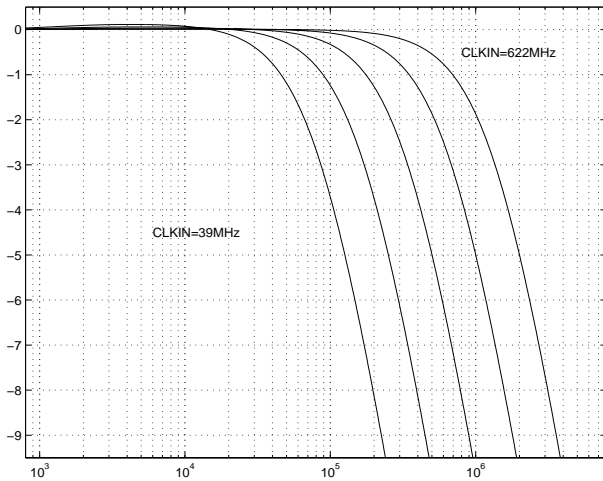

Figure 4. PLL Jitter Transfer Functions, MULTSEL = 0 (MULTOUT = 600–668 MHz)
The amount of jitter present in the MULTOUT output is a function of the DSPLL jitter transfer function and jitter generation characteristic. Details are provided in the PLL Performance section of this document. (See Figures 4 and 5.) The amount of jitter that the DSPLL can tolerate on the CLKIN input is specified in Tables 5 and 6.
MULTSEL setting and the input clock rate. Higher input clock rates produce higher bandwidth transfer functions with lower jitter peaking. Table 4 gives the 3 dB bandwidth and peaking values for specified input clock rates and MULTSEL settings. Figures 4 and 5 show a family of jitter transfer curves for different input clock rates.
- Figure 4, "PLL Jitter Transfer Functions, MULTSEL = 0 (MULTOUT = 600–668 MHz)," on page 16